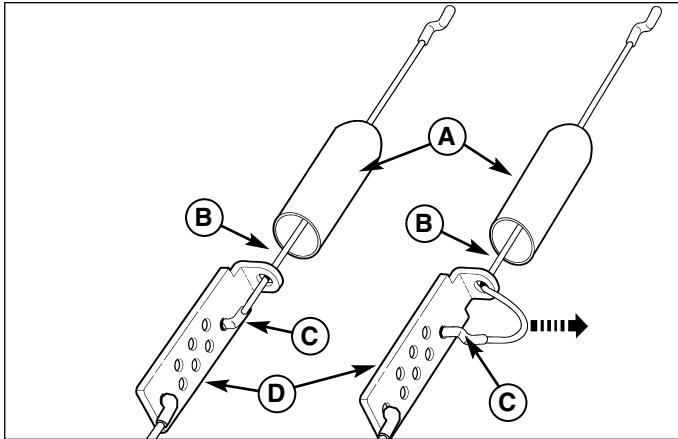

Figure 20. Traction Drive Cable Adjustment
2. To adjust tension on the cable slide the cable boot (A, Figure 20) off the cable adjustment bracket (D).
3. Remove the "Z" hook (C) from the cable adjustment bracket (D) to a different adjustment hole. The cable should have no slack. The cable should have no tension or load.